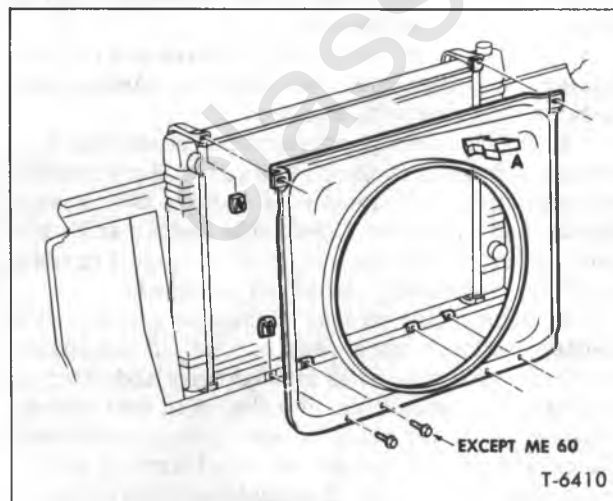
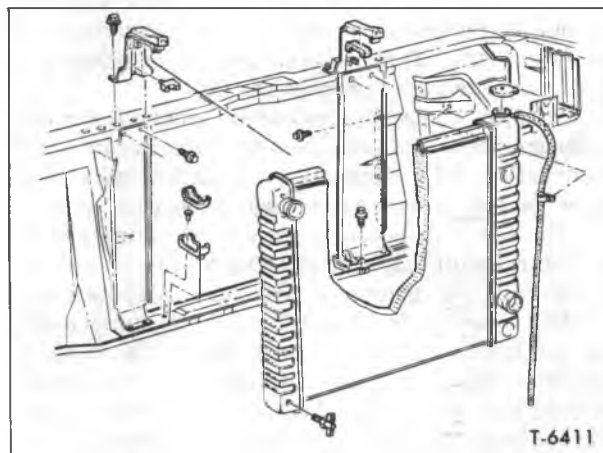
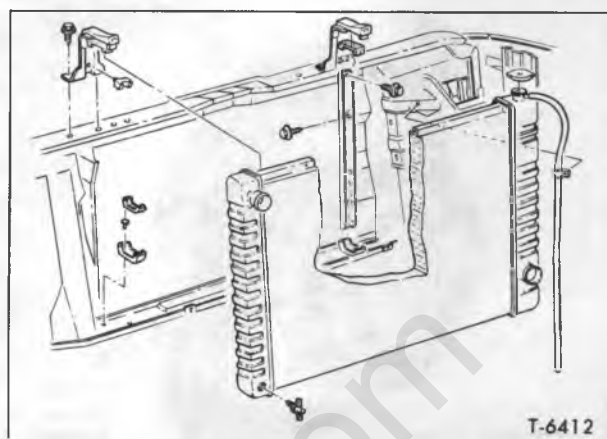

Figure 1—Radiator Fan Shroud Installation
Figure 2—Radiator Installation (All Conv. and Cowl Models 40, 50) (Typical)
Figure 3—Radiator Installation (Conv. Cab Models—60)
For illustration of radiator fan shroud installation (when used) refer to figure 1. Radiator installation for conventional and cowl models 40 and 50 is illustrated in figure 2 and radiator installation for conventional cab models 60 in figure 3.
2. If vehicle is equipped with a fan shroud, remove shroud attaching screws (fig. 1) and carefully hang shroud over engine fan assembly to provide clearance for radiator removal.